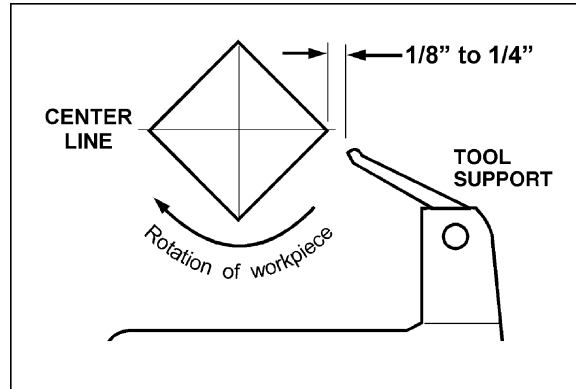

Figure 32
10. Move tool support into position. It should be parallel to the workpiece, just below the centerline and approximately 1/8" to 1/4" from the corners of the workpiece to be turned, as in Figure 32. Tighten support base to Lathe bed.